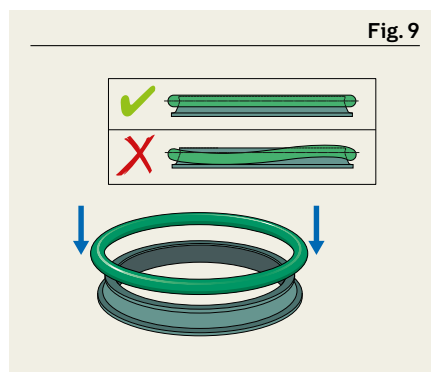

Fig. 9
- 5 Install the o-rings on the metal sealing rings at the bottom of the ramp. Check that there is no skewing or twisting of the o-rings. Make sure that the center line of the o-ring is parallel to the seal face (**Fig. 9**).